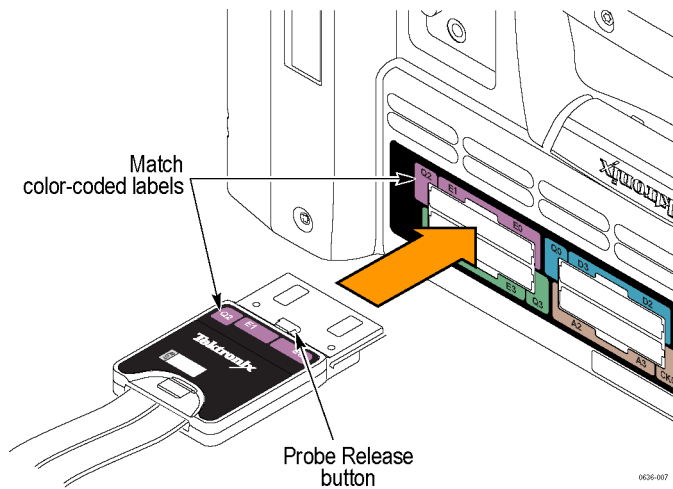

Figure 7: Connect the probe to the logic analyzer
1. Match the color-coded labels of the probe to the same color-coded connector on the logic analyzer. (See Figure 7 on page 8.)